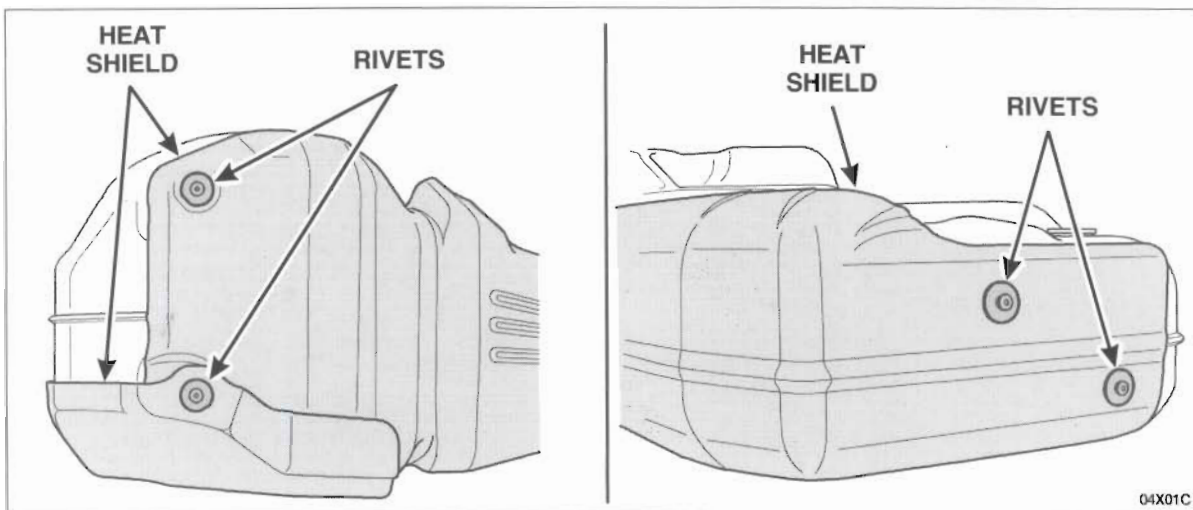

FIGURE 2
2. Remove the heat shields by pulling the retaining rivet center pins outward, then prying the rivets from the shields. See Figure 2.